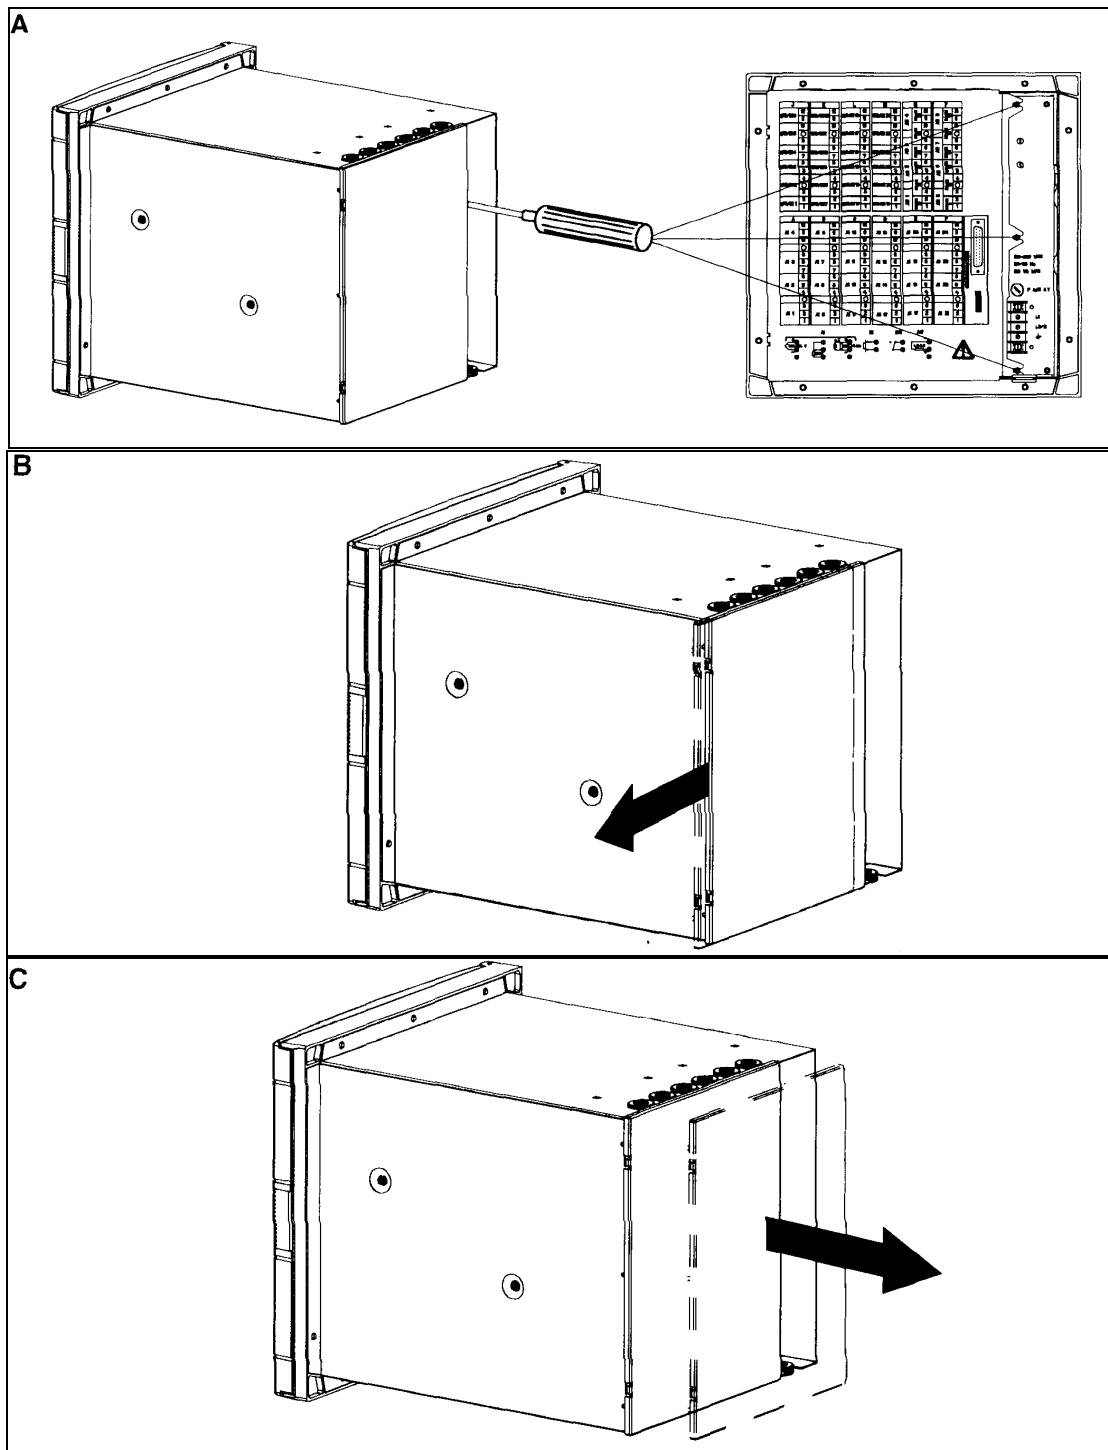

Figure 2-2
4. Loosen the 3 fixing screws from the rear cover (see ref.A, Figure 2-2)
5. Remove the rear cover. (See ref. B & C, Figure 2-2)